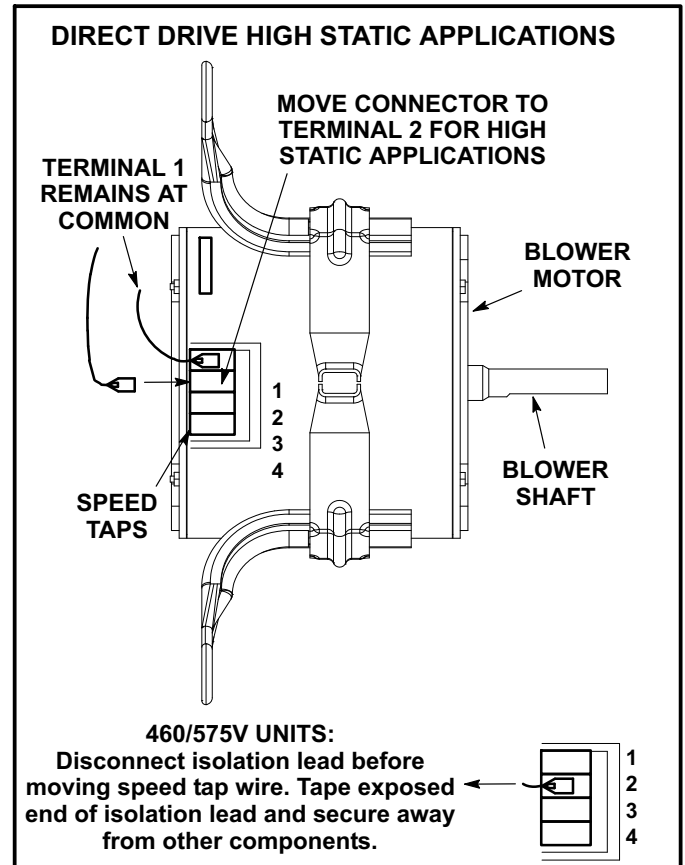

FIGURE 7
- 4- Use the blower tables starting on Page 9, the measured static pressure, and the factory-set blower speed to determine CFM. If CFM is lower than the design specified CFM, move the lead from speed tap 3 or 4 to speed tap 2. See figure 7.